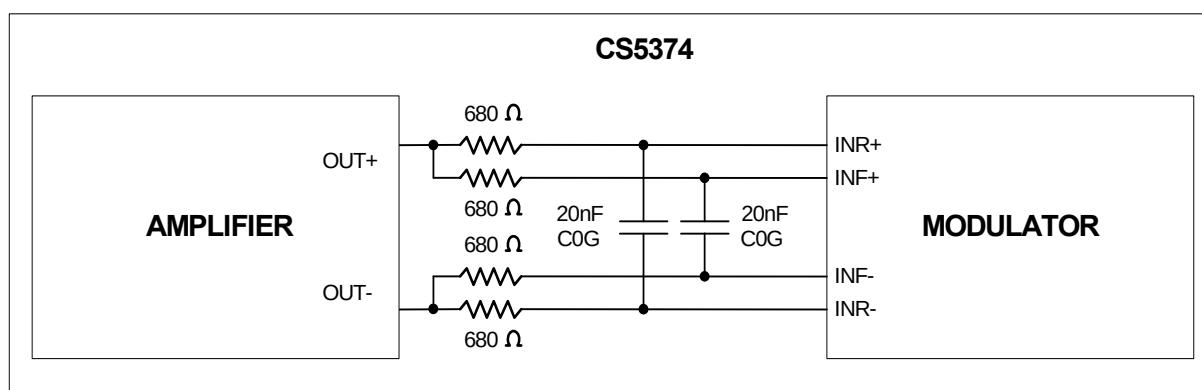

Figure 1. External Anti-alias Filter Components
- Anti-alias capacitors are discrete external components and must be of good quality (COG, NPO, poly). Poor-quality capacitors will degrade total harmonic distortion (THD) performance. See Figure 1 for external anti-alias filter connections.